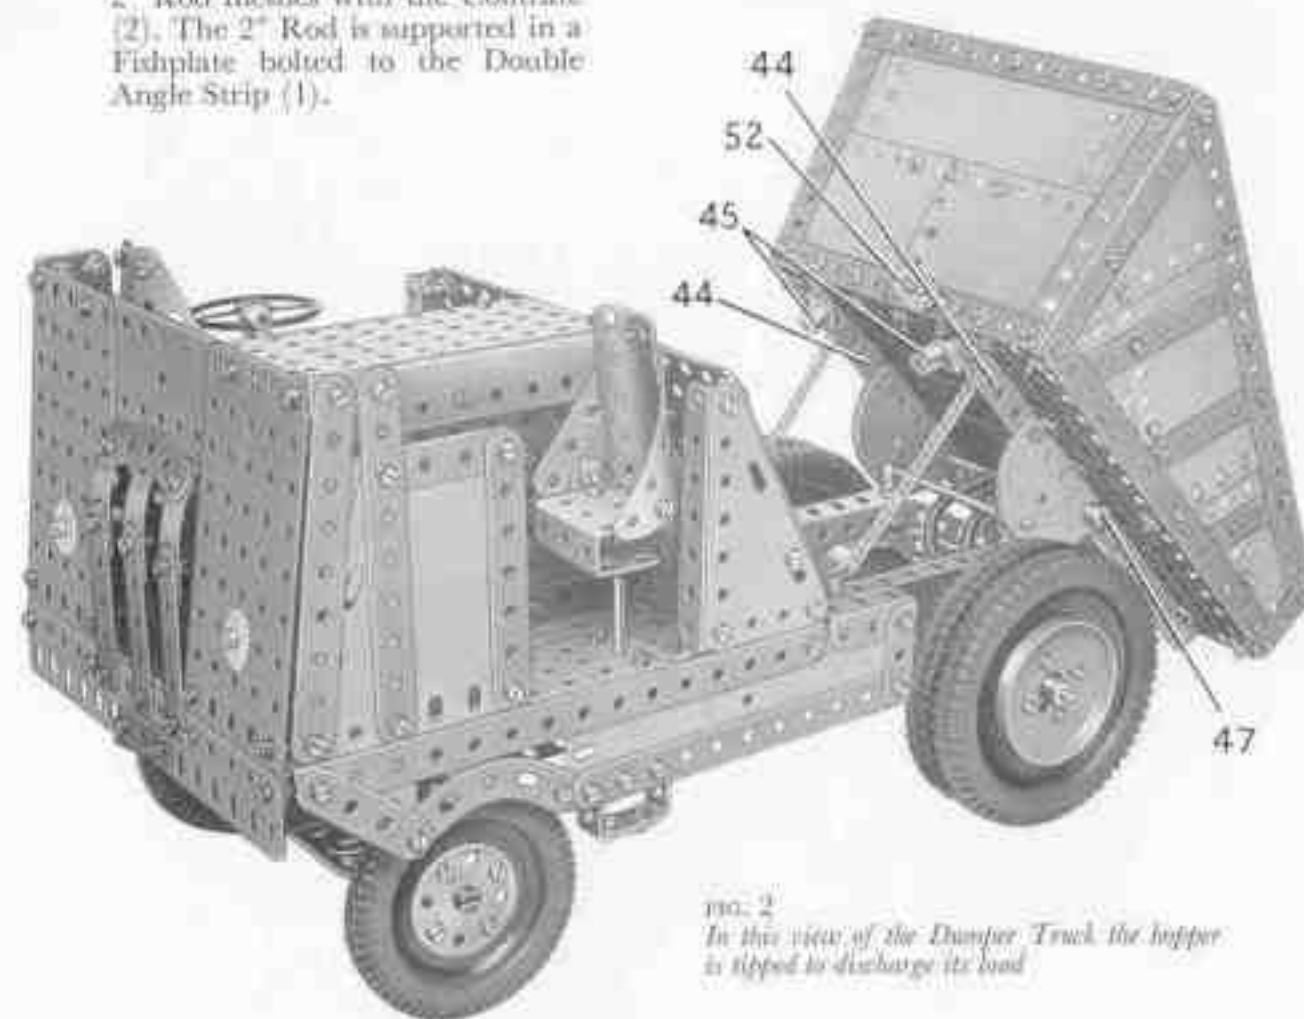
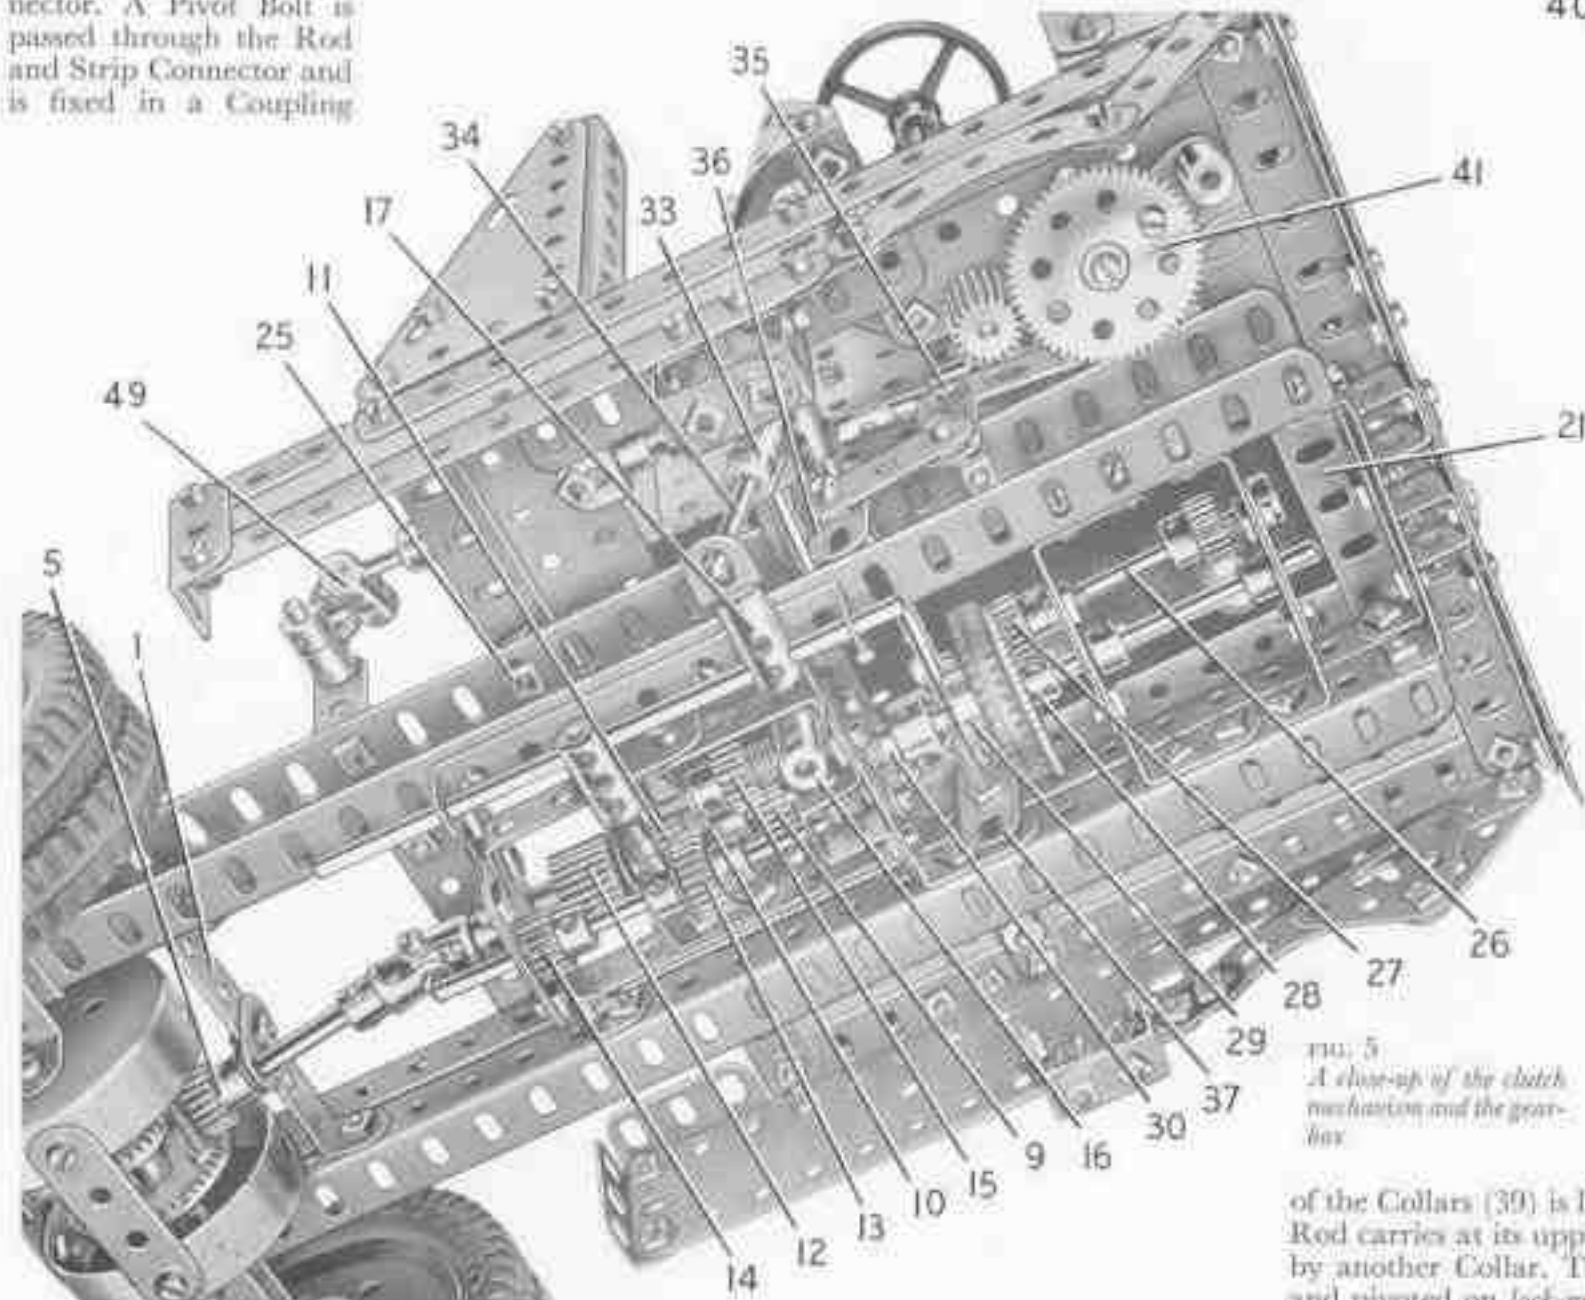
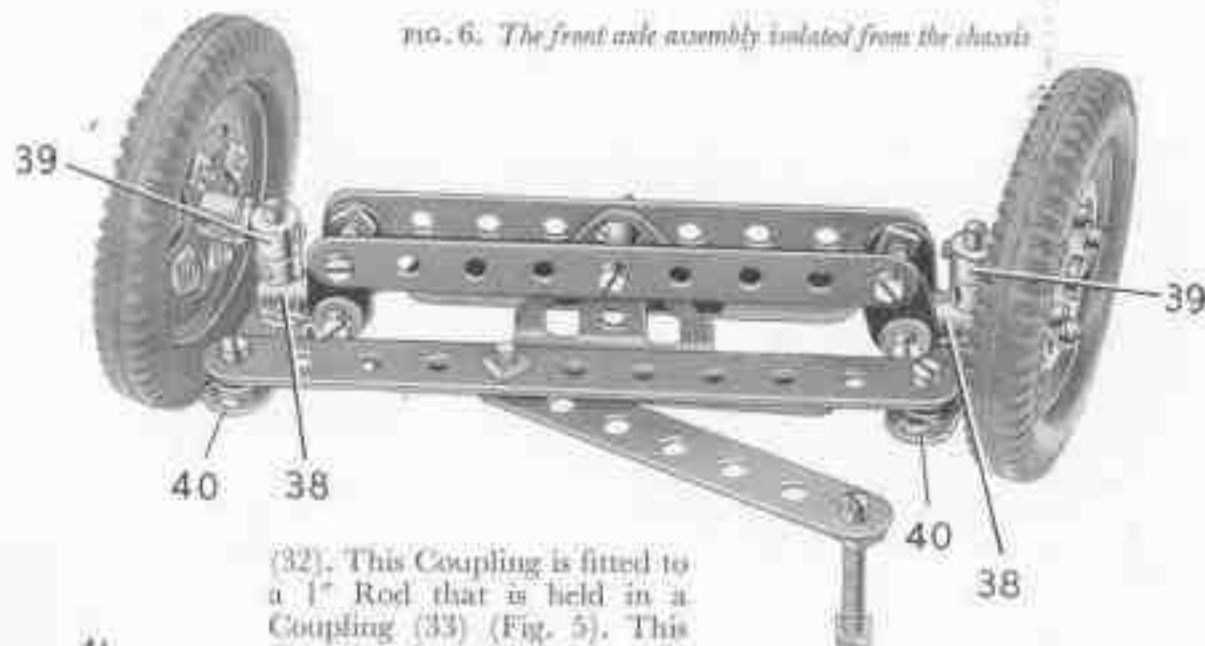
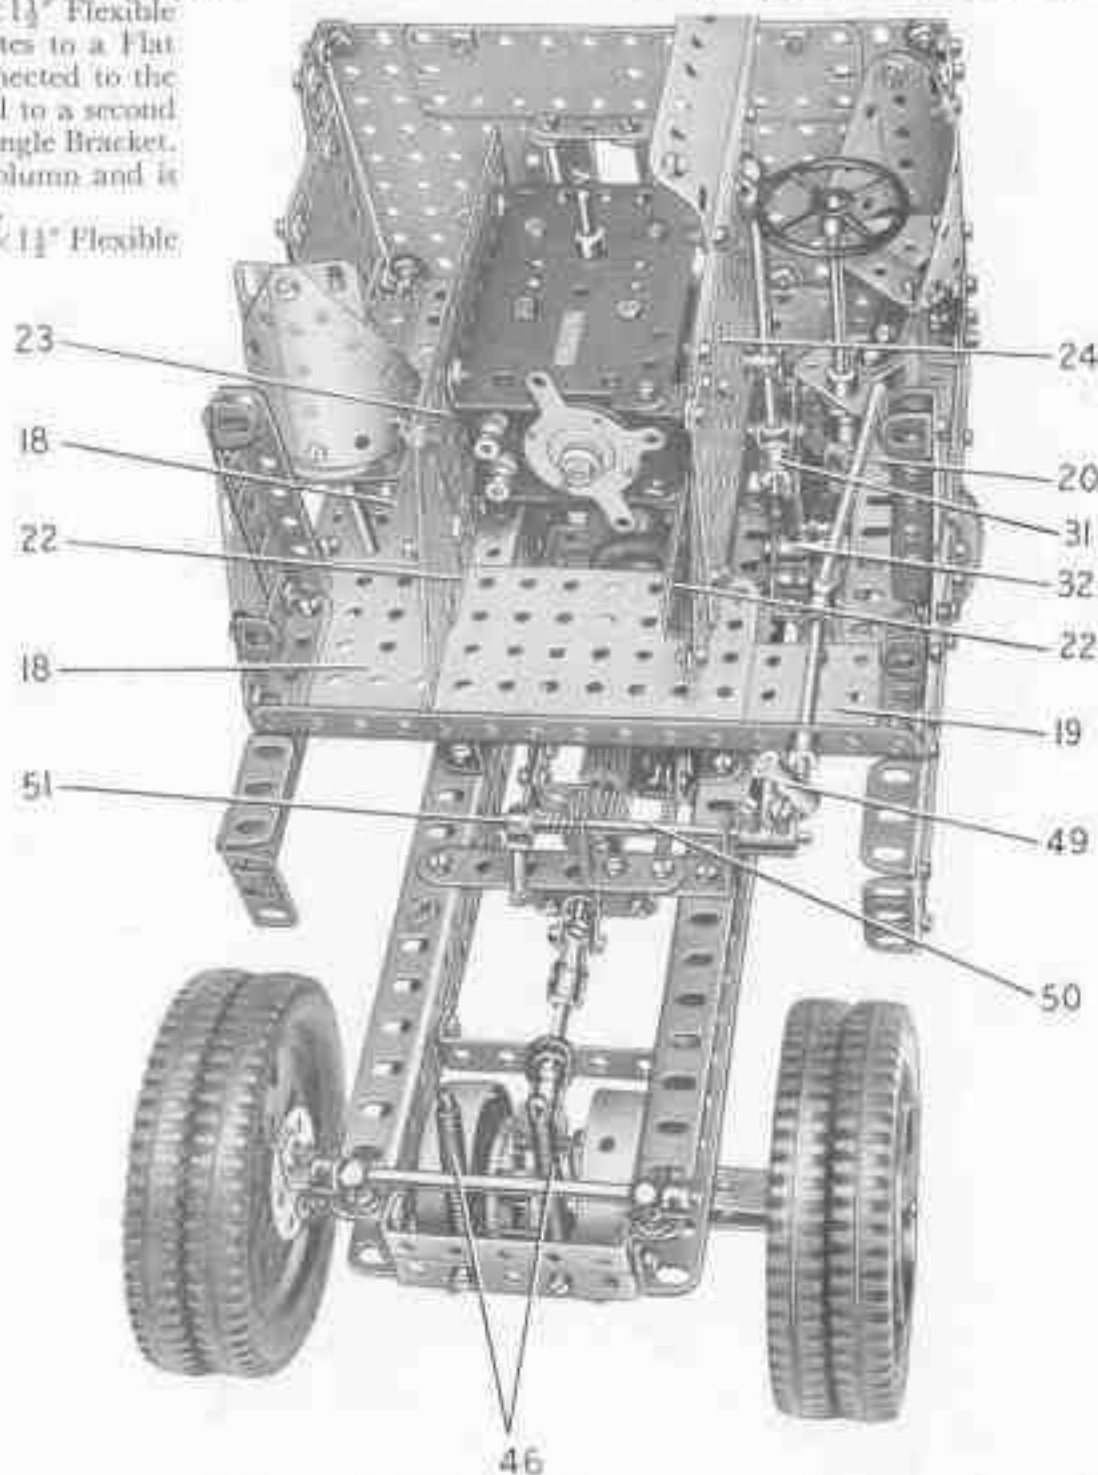

FIG. 2
FIG. 5
FIG. 6. The front axle assembly isolated from the chassis
FIG. 7. An end view of the Dumper Truck, with the hopper and the front of the body removed to show how the V.15R Electric Motor is mounted in place
The gear-box driving shaft is a  $3"$  Rod that carries a  $\frac{1}{2}"$  Pinion (9) (Fig. 5) and a  $\frac{1}{2}"$  Pinion (10). The Rod is held in place by a Collar, and projects about  $\frac{1}{4}"$  beyond the Pinion (10) into the bore of a  $\frac{1}{2}"$  Pinion (11) on the output shaft. This shaft is a  $2"$  Rod supported in one end of the frame and in the Angle Bracket (8), and it carries also a  $\frac{1}{2}"$  diam.  $\times \frac{1}{2}"$  face Pinion (12).
(Fig. 5.) The reverse  $\frac{1}{2}"$  Pinion (15) is free to turn on a  $1\frac{1}{2}"$  Rod fixed in a Coupling (16). The Pinion is held on the Rod by a Spring Clip, and is spaced from the Coupling by five Washers. The Coupling is screwed tightly on to a  $\frac{1}{2}"$  Bolt passed through one end of the gear-box frame, but is spaced from the frame by a Washer. The position of the Coupling (16) is arranged so that Pinion (15) can be meshed with both Pinions (9) and (13).
### Construction of the Body (Figs. 2, 5 and 7)
The base frame of the body consists of four  $7\frac{1}{2}"$  Angle Girders arranged in the form of a square. Two  $5\frac{1}{2}" \times 2\frac{1}{2}"$  Flat Plates (18) and two  $3" \times 1\frac{1}{2}"$  Flat Plates (19) and (20) are bolted to the frame (Fig. 7), and a  $2\frac{1}{2}" \times 1\frac{1}{2}"$  Flexible Plate is fitted in front of the Plate (20). A  $3\frac{1}{2}"$  Flat Girder is fixed between the Flexible Plate and the Plate (19), and a  $4\frac{1}{2}"$  Flat Girder (21) (Fig. 5) is bolted centrally to the rear end of the frame.
Two  $5\frac{1}{2}"$  Angle Girders (22) (Fig. 7) are bolted to the Plates (18) and to the Flat Girder (21). A  $5\frac{1}{2}" \times 2\frac{1}{2}"$  Flat Plate (23) is attached by Subplates to one of the Girders (22), and a  $5\frac{1}{2}" \times 3\frac{1}{2}"$  Flat Plate (24) is attached by Angle Brackets to the second Girder.
The body is attached to the chassis by two Double Bent Strips at the rear (Fig. 5), and by Double Brackets held by bolts (25).
An E15R Electric Motor is bolted by its flanges to Flat Plate (23) (Fig. 7). The Motor is connected to Flat Plate (24) by  $1" \times \frac{1}{2}"$  Angle Brackets, and to one of the Girders (22) by  $\frac{1}{2}" \times \frac{1}{2}"$  Angle Brackets. A cover over the Motor is provided by a  $5\frac{1}{2}" \times 2\frac{1}{2}"$  Flat Plate and a curved  $5\frac{1}{2}" \times 2\frac{1}{2}"$  Flexible Plate bolted together. The cover is pivoted on Hinges bolted to the Flat Plate (24).
A Worm fixed to the lower end of the Motor shaft drives a  $\frac{1}{2}$ " Pinion on a  $2\frac{1}{4}$ " Rod (26) (Fig. 5). This Rod is supported in two Flat Trunnions, one of which is bolted to a  $2\frac{1}{2}$ "  $\times$   $\frac{1}{2}$ " Double Angle Strip and the other to a  $2\frac{1}{2}$ "  $\times$   $1$ " Double Angle Strip. A  $\frac{1}{2}$ " Pinion drives a 57-tooth Gear (28) on a  $2\frac{1}{4}$ " Rod mounted in the Double Angle Strips.
**Arrangement of the Driving Controls (Figs. 5 and 7)**
The gear-change lever is a  $3\frac{1}{2}$ " Rod, fixed in a Handrail Support lock-nutted to Flat Plate (24) (Fig. 7). A Swivel Bearing (31) is fixed on the lower end of the lever, and is joined by a 1" Rod to a Rod and Strip Connector. A Pivot Bolt is passed through the Rod and Strip Connector and is fixed in a Coupling
(32). This Coupling is fitted to a 1" Rod that is held in a Coupling (33) (Fig. 5). This Coupling is carried by a 2" Rod supported in one of the chassis side-members and in a  $1" \times \frac{1}{4}"$  Angle Bracket bolted to the top flange of the side-member. The 2" Rod is held in place by a Collar. A  $1\frac{1}{2}"$  Rod (34) fixed in the Coupling (33) engages the slotted hole of an Angle Bracket, which is pivoted on a bolt fixed by a nut in the Threaded Coupling (17).
The clutch pedal is formed by a Threaded Boss held by a bolt in the short lug of a  $1" \times \frac{1}{4}"$  Angle Bracket. The Angle Bracket is bolted to one arm of a Bell Crank (35) (Fig. 5), which is fixed on a 1" Rod. The 1" Rod is passed through a Handrail Support attached by its shank to the top flange of the chassis, and the Rod is held in place by a Collar. A  $1\frac{1}{2}"$  Strip is lock-nutted to the other arm of the Bell Crank, and is lock-nutted also to a Crank (36) fixed on a  $4\frac{1}{2}"$  Rod mounted across the chassis. A Crank (37) on this Rod is fitted with a  $\frac{1}{2}"$  Bolt that engages the groove of the Socket Coupling (29).
The front axle is supported by Trunnions attached to four  $3\frac{1}{2}"$  Strips. These Strips are arranged in pairs, each pair consisting of two Strips placed face-to-face, and they are bolted to the chassis. The axle beam is made from two  $4\frac{1}{2}"$  Strips, which pivot on a  $\frac{1}{4}"$  Bolt lock-nutted in the Trunnions. A Collar and a Washer are placed on the Bolt between the Trunnions, and a Washer is fitted between each  $4\frac{1}{2}"$  Strip and the corresponding Trunnion. Fishplates are fastened to the ends of the  $4\frac{1}{2}"$  Strips, and a Coupling (38) is fixed by two bolts to the Fishplates at each end (Fig. 6).
The steering column is a  $4\frac{1}{2}$ " Rod mounted in a Double Arm Crank bolted to Flat Plate (20) (Fig. 7). The Rod is held in place by a  $\frac{1}{2}$ " fixed Pulley placed above the Crank, and below the Flat Plate it is fitted with a  $\frac{1}{2}$ " diameter  $\times \frac{1}{4}$ " face Pinion. This Pinion engages a 57-tooth Gear (41) (Fig. 5), which is freely mounted on a  $\frac{1}{2}$ " Bolt held by two nuts in the Flat Plate (20). A  $3\frac{1}{2}$ " Strip is lock-nutted on a  $1\frac{1}{2}$ " Bolt fixed in a Threaded Boss, attached to a Fishplate bolted to Gear 41. The other end of the Strip is lock-nutted to the  $5\frac{1}{2}$ " Strips attached to the Cranks (40) (Fig. 6).
The seat for the second man is formed by a  $2\frac{1}{2}$ "  $\times$   $1\frac{1}{2}$ " Flexible Plate and two  $2\frac{1}{2}$ "  $\times$   $2$ " Triangular Flexible Plates attached by Angle Brackets to a Bush Wheel and a Channel Bearing (see Fig. 2). A  $2\frac{1}{2}$ " Rod fixed in the Bush Wheel is held in a Double Arm Crank bolted underneath the body.
The floor of the hopper is formed by three  $4\frac{1}{2}$ "  $\times$   $2\frac{1}{2}$ " Flexible Plates and two  $2\frac{1}{2}$ "  $\times$   $1\frac{1}{2}$ " Flexible Plates, extended on each side by a  $5\frac{1}{2}$ "  $\times$   $1\frac{1}{2}$ " and a  $2\frac{1}{2}$ "  $\times$   $1\frac{1}{2}$ " Flexible Plate. The floor is strengthened by five  $7\frac{1}{2}$ " Strips bolted to the Plates on the inside, and along the front edge are bolted a  $4\frac{1}{2}$ " and a  $5\frac{1}{2}$ " Flat Girder overlapped three holes. Two built-up girders (44) (Fig. 2), each made from a  $5\frac{1}{2}$ " and a  $2\frac{1}{2}$ " Angle Girder, are bolted to the underside of the floor.
Two Semi-Circular Plates placed face-to-face are bolted to each of the girders (44), and they pivot on a 4" Rod held in Handrail Supports fixed to the chassis. Two short lengths of Sprocket Chain are hooked through holes in the girders (44), and are looped over Cord Anchoring Springs screwed into holes in the chassis. Two Rod Sockets (45) (Fig. 2) are fixed to Angle Brackets bolted to the girders (44). Two Tension Springs (46) (Fig. 7) are bolted to the front of the chassis, and are passed over a  $4\frac{1}{2}$ " Rod (47) (Fig. 2).
supported in the front  $7\frac{1}{2}$ " Angle Girder of the body, and in an Angle Bracket bolted to Flat Plate (19) (Fig. 7). At its front end the 3" Rod carries a Coupling (49), which is fitted with a Centre Fork. The Centre Fork is located between two  $\frac{1}{2}$ " Bolts, each of which is screwed into one half of a Dog-Clutch on a  $3\frac{1}{2}$ " Rod (50). This Rod is mounted in  $1" \times 1"$  Angle Brackets bolted to a  $3\frac{1}{2}$ " Strip fixed across the chassis. A Compression Spring is placed on Rod (50) between one of the Angle Brackets and a Collar (51). A  $\frac{1}{2}$ " Bolt is screwed into the Collar and bears against the edge of the  $3\frac{1}{2}$ " Strip to ensure that the  $\frac{1}{2}$ " Bolts in the Dog-Clutch remain in engagement with the Centre Fork. The end of Rod (50) passes into an Angle Bracket (52) (Fig. 2), which is spaced from the back of the hopper by a Collar on a  $\frac{1}{2}$ " Bolt.